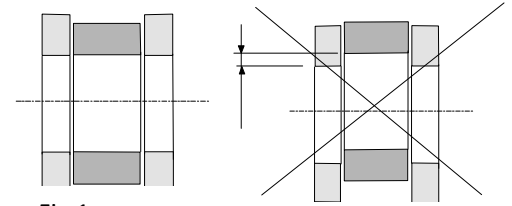

Fig. 1
- 1.2 Align the bolt hole. The middle section must line up with the support on each side (see Fig. 1). Use a jack or hoist if necessary.